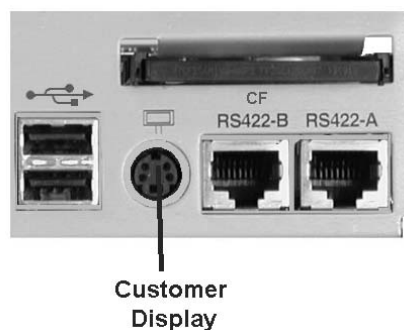

Figure 3-20: Connecting the Pole Display to the WS4 LX IO Panel
4. Figure 3-20 points out the location of the Pole Display connector. Power-off the WS4 LX and attach the keyed 4-Pin connector on the cable to the Customer Display Connector on the WS4 LX IO Panel.